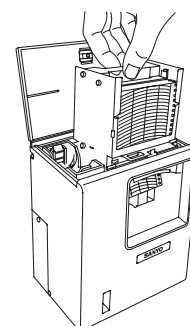

Fig. 2
2. Pull the cartridge up after opening the top lid. The lid can be opened by turning the knob counterclockwise. See Fig. 2.
2. Pull the cartridge out of the mounted position. (Fig. 2)
2. Remove the screws at the right corner on the top of the unit and fix the recorder to the attachment position. (Fig. 2)